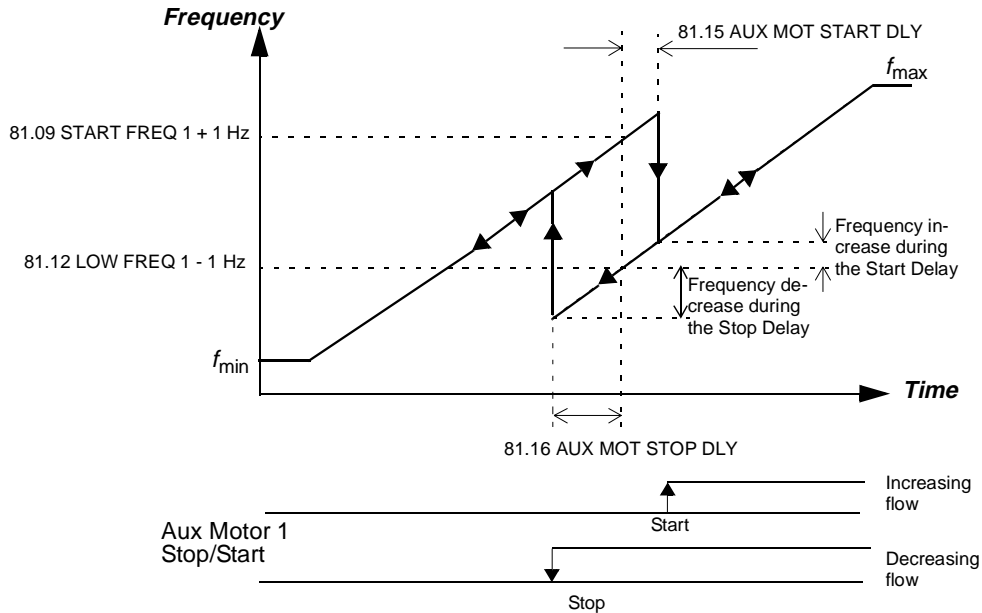

Figure 6-21 Start Frequency, Low Frequency, Start Delay and Stop Delay.
81.09 START FREQ 1 Parameter sets a frequency limit (see Figure 6-21). When ACS 600 output frequency exceeds value (81.09 START FREQ 1 + 1 Hz) and no auxiliary motors are running, the Start Delay counter is started. When the time set with Parameter 81.15 AUX MOT START DLY is elapsed and if the output frequency is still above value (81.09 START FREQ 1 +1 Hz), the first auxiliary motor is started.
81.10 START FREQ 2 Parameter sets a frequency limit (see Figure 6-21). When ACS 600 output frequency exceeds value (81.10 START FREQ 2 + 1 Hz) and one auxiliary motor is running, the Start Delay counter is started. When the time set with Parameter 81.15 AUX MOT START DLY is elapsed and if the output frequency is still above value (81.10 START FREQ 2 + 1 Hz), the second auxiliary motor is started.
81.11 START FREQ 3 Parameter sets a frequency limit (see Figure 6-21). When ACS 600 output frequency exceeds value (81.11 START FREQ 3 + 1 Hz) and two auxiliary motors are running, the Start Delay counter is started. When the time set with Parameter 81.15 AUX MOT START DLY is elapsed and if the output frequency is still above value (81.11 START FREQ 3 +1 Hz), the third auxiliary motor is started.
81.12 LOW FREQ 1 Parameter sets a frequency limit (see Figure 6-21). When ACS 600 output frequency falls below value (81.12 LOW FREQ 1 - 1 Hz) and one auxiliary motor is running, the Stop Delay counter is started. When the time set with Parameter 81.16 AUX MOT STOP DLY is elapsed and if the output frequency is still below value (81.12 LOW FREQ 1 -1 Hz), the first auxiliary motor is stopped.
81.13 LOW FREQ 2 Parameter sets a frequency limit (see Figure 6-21). When ACS 600 output frequency falls below value (81.13 LOW FREQ 2 - 1 Hz) and two auxiliary motors are running, the Stop Delay counter is started. When the time set with Parameter 81.16 AUX MOT STOP DLY is elapsed and if the output frequency is still below value (81.13 LOW FREQ 2 -1 Hz), the second auxiliary motor is stopped.
81.14 LOW FREQ 3 Parameter sets a frequency limit (see Figure 6-21). When ACS 600 output frequency falls below value (81.14 LOW FREQ 3 - 1 Hz) and three auxiliary motors are running a Stop Delay counter is started. When the time set with Parameter 81.16 AUX MOT STOP DLY is elapsed and if the output frequency is still below value (81.14 LOW FREQ 3 -1 Hz), the third auxiliary motor is stopped.
81.15 AUX MOT START DLY Parameter sets the Start Delay for the auxiliary motors. See Figure 6-21 for more information.